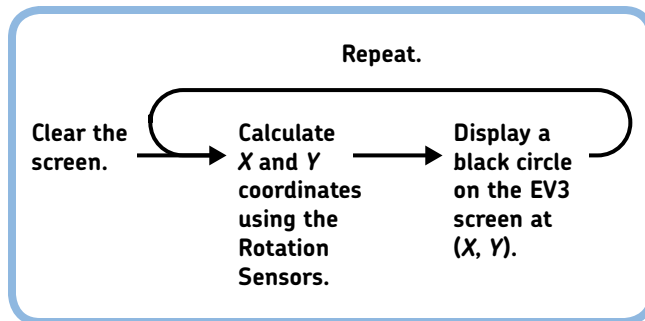

Figure 17-2: Program flow for the basic Etch-A-Sketch program
An Etch-A-Sketch device draws lines on its screen as you turn the knobs, as if moving a pencil across a piece of paper. The left knob controls the *horizontal position* of the pencil (X), while the right knob controls the *vertical position* (Y). This behavior is surprisingly easy to re-create in an EV3 program, as shown in Figure 17-2.
Now that you’ve created the essential components of the flow diagram in Figure 17-2, finish the program as shown in Figure 17-5. Besides the two My Blocks, the program contains a Display block configured to display the dot (small circle) at the required coordinates and a Loop block to repeat the program. Download the program to your robot and test it before expanding the program in the next section.